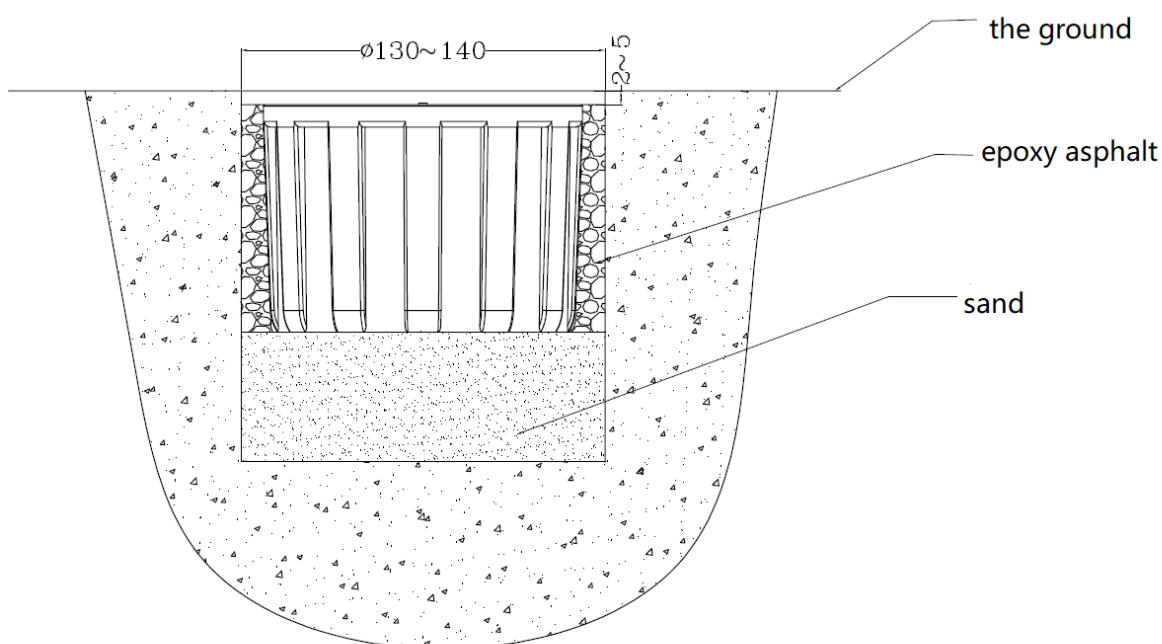

Figure 7: Installation of the product
- As shown in Figure 7, drill a round hole of  $\Phi 130\text{-}140\text{mm}$  in the middle of the parking space, and the depth of the hole should exceed the product height by 2-5cm.
- The product installation is complete after the epoxy asphalt has solidified as in Figure 7.